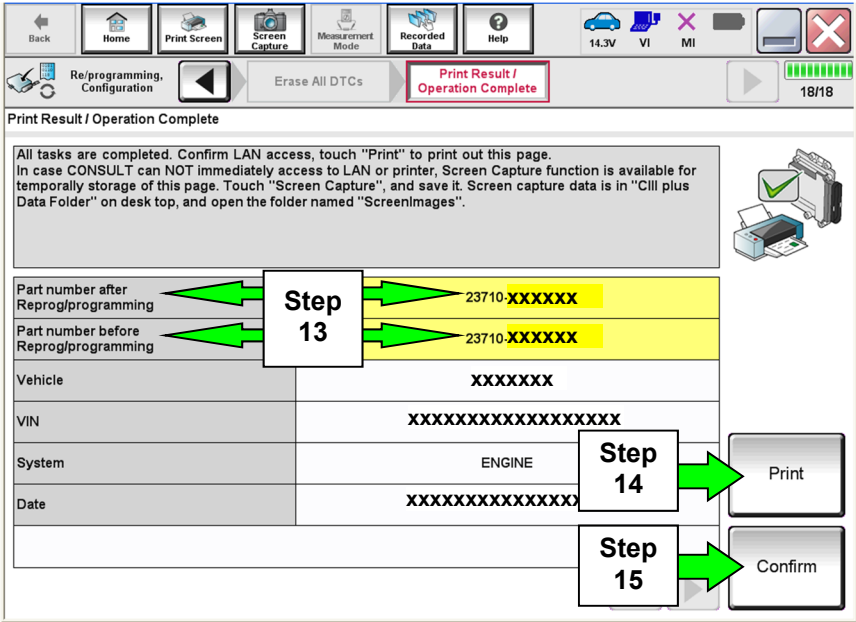

Figure 11
- 12. When the entire reprogramming process is complete, the screen in Figure 11 will display.
- 14. Print a copy of this screen (Figure 11) and attach it to the repair order for warranty documentation.